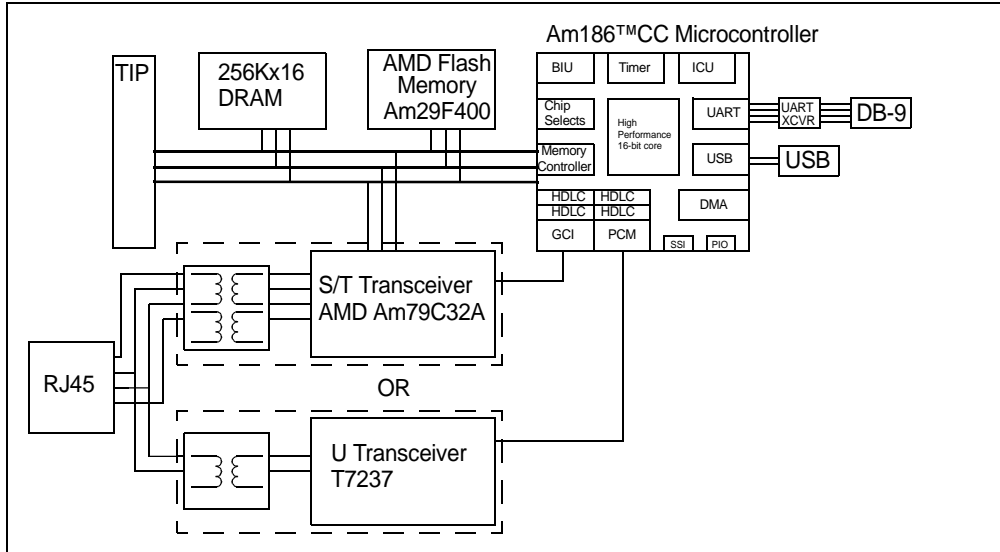

Figure 0-1. ISDN TA Reference Design Block Diagram
The Am186CC microcontroller ISDN terminal adapter (TA) reference design is a small, cost-effective ISDN solution for embedded communications applications. This design is intended to reduce the time to market for ISDN designers using the Am186CC microcontroller. Figure 0-1 shows a block diagram of the ISDN TA reference design.